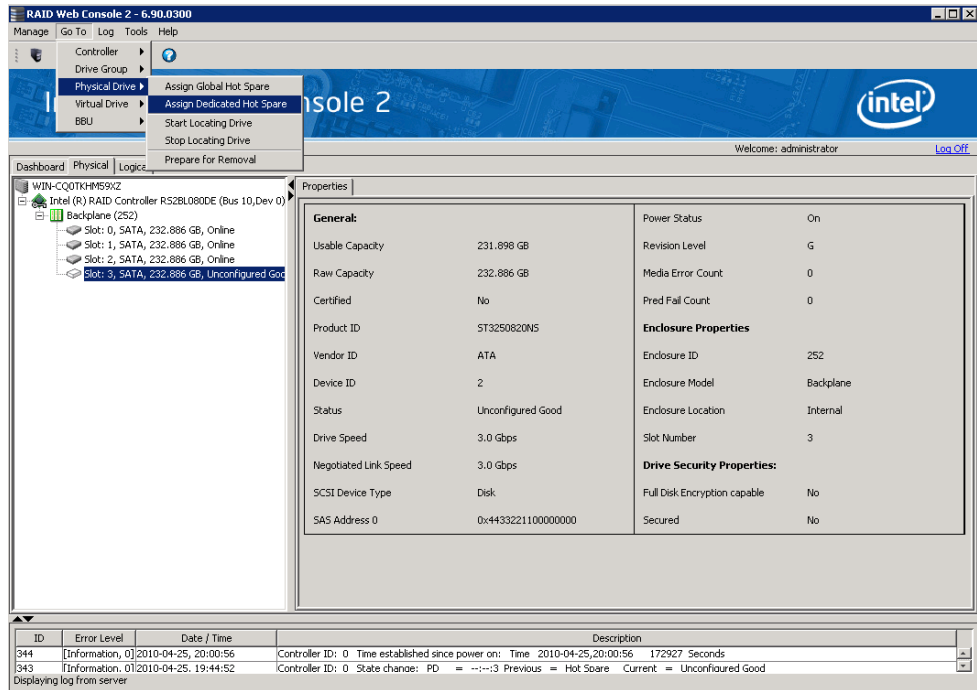

Figure 67. Assign Dedicated Hotspare
2. In the Menu, click the **Go To -> Physical Drive** tab and select **Assign Dedicated Hot Spare**, as shown in Figure 67.